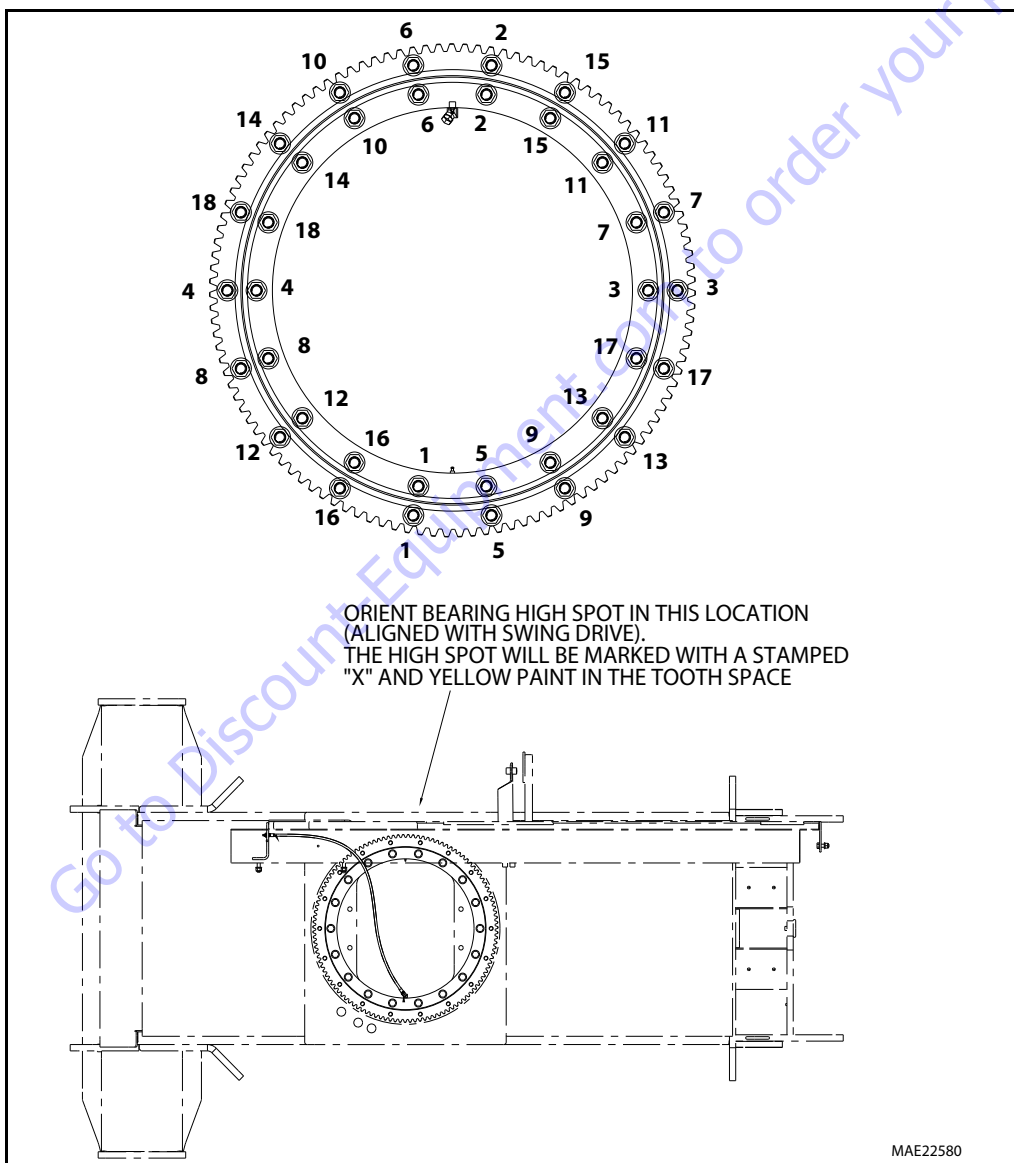

Figure 3-13. Swing Bearing Torque Sequence
3. Refer to the Torque Sequence diagram as shown in Figure 3-13., Swing Bearing Torque Sequence, Swing Bearing Torque Sequence Clean any residue off the new bearing bolts, then apply a light coating of JLG Threadlocker P/N 0100019 and install the bolts and washers through the frame and outer race of the bearing. Tighten the bolts to an initial torque of 190 ft. lbs. (260 Nm) w/Loctite.
8. Following the Torque Sequence diagram shown in Figure 3-13., Swing Bearing Torque Sequence, tighten the bolts to a torque of 190 ft. lbs. (260 Nm) w/Loctite.
3. See Figure 3-13., Swing Bearing Torque Sequence.